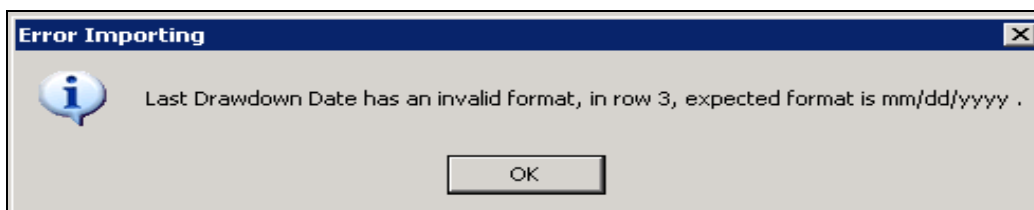

Figure 11-60: Last Drawdown Date has an invalid format error message
- The system will return the following Error Importing message (Figure 11-60). Select OK, enter the date in the correct MM/DD/YYYY format and attempt to import the spreadsheet again.